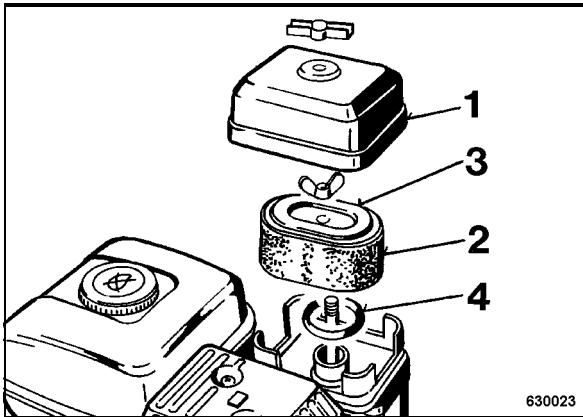

Fig. 29
- Loosen the fastening for the cover and remove the cover (Fig. 29).